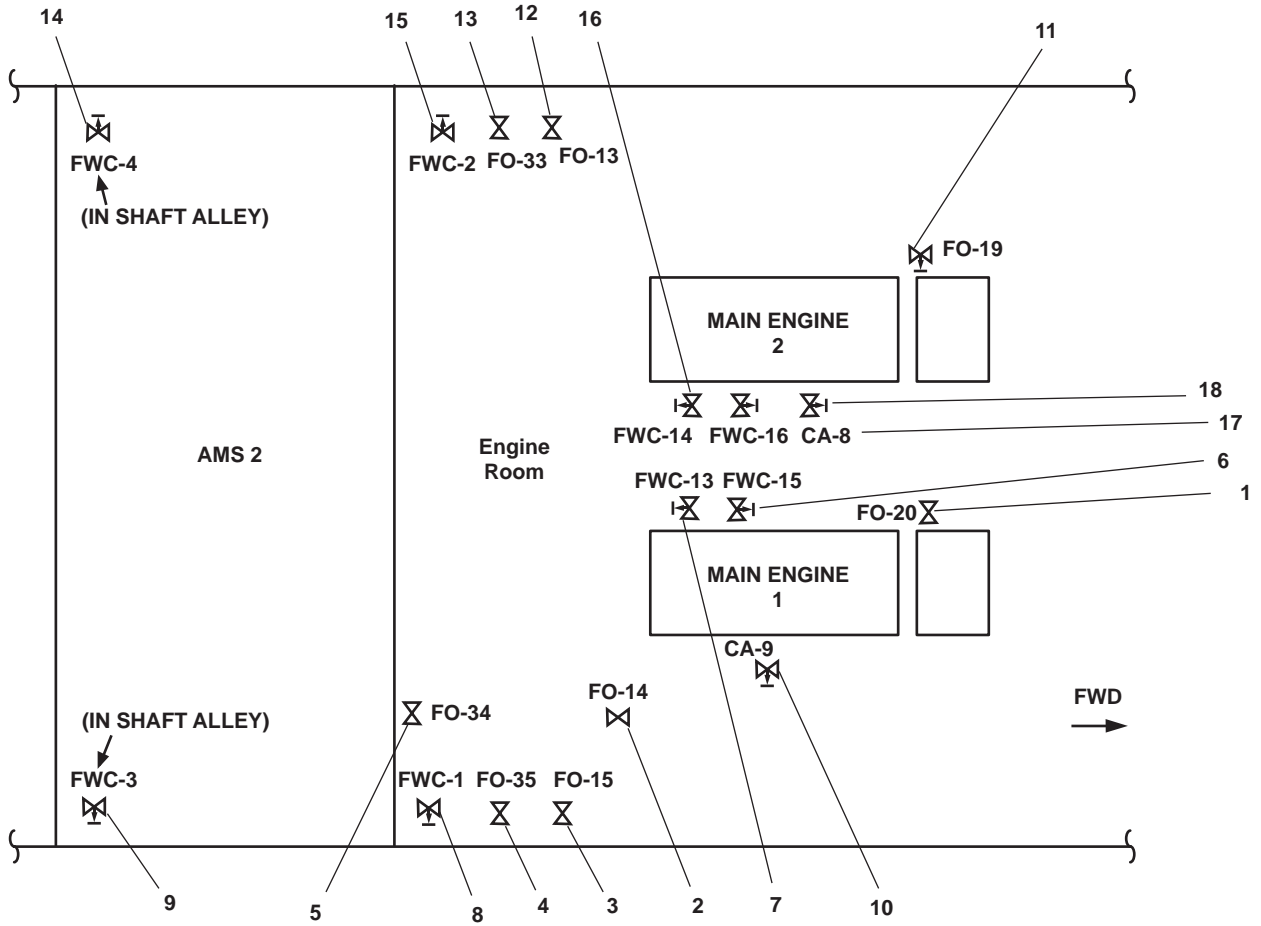

Figure 6. Main Propulsion System Valve Locations
- a. FO-20, F.O. SPLY TO STBD ME No. 1 (figure 6, item 1).
- b. FO-14, F.O. SERV CRSVR (figure 6, item 2).
- c. FO-15, F.O. SERV. SUCT. STBD (remote operator in the galley) (figure 6, item 3).
- d. FO-35, F.O. RTN TO DAY TK. STBD (figure 6, item 4).
- e. FO-34, F.O. RTN CRSVR (figure 6, item 5).
- a. Fwc-15, F.W. FR. KEEL CLR TO RED. GEAR No. 1 (figure 6, item 6)
- b. Fwc-13, F.W. FR. RED. GEAR No. 1 TO KEEL CLR (figure 6, item 7)
- c. Fwc-1, F.W. FR. KEEL CLR TO M.E. N0. 1 (figure 6, item 8)
- d. Fwc-3, F.W. FR. M.E. No. 1 TO KEEL CLR. (figure 6, item 9)
15. OPEN valve CA-9, STG AIR TO ME #1 (figure 6, item 10).
- a. FO-19, F.O. SPLY TO PORT ME No. 2 (figure 6, item 11).